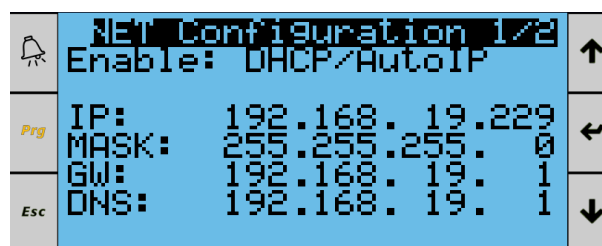

Figure 83. Settings Menu, Communications, Ethernet, Page 2
23. Set appropriate parameters for BMS connectivity as shown in **Figure 83** below.